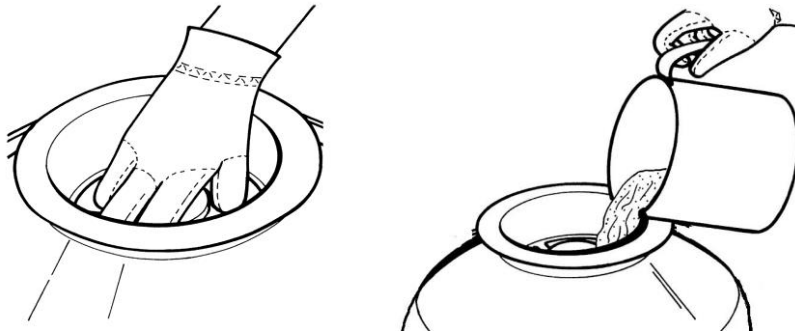

fig. 4
4. Insert the tube with filter basket inside the tank as above picture, then place the funnel on the tank's mouth and pour the quartz sand into the tank (sand weight 13 kg). Please ensure no sand is falling into the tube. (fig. 4)